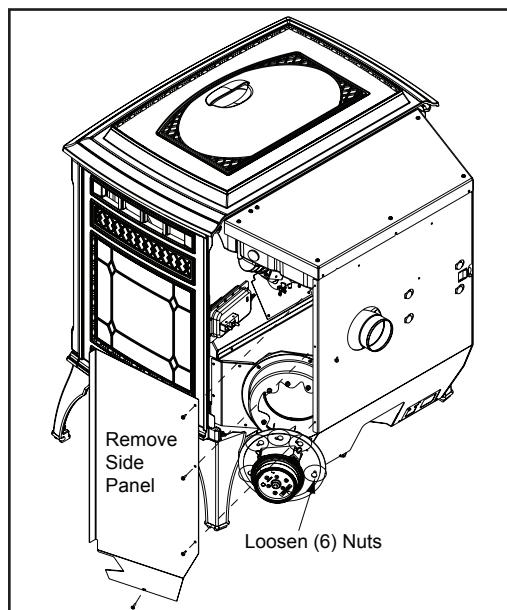

Figure 29.4
2. Remove the right side panel by removing the 4 screws using a Phillips head screw driver. **Figure 29.4**.
5. Using an 11/32 socket or nut driver, loosen the (6) 8x32 nuts securing the motor and impeller to the housing. Rotate the blower and remove from housing.